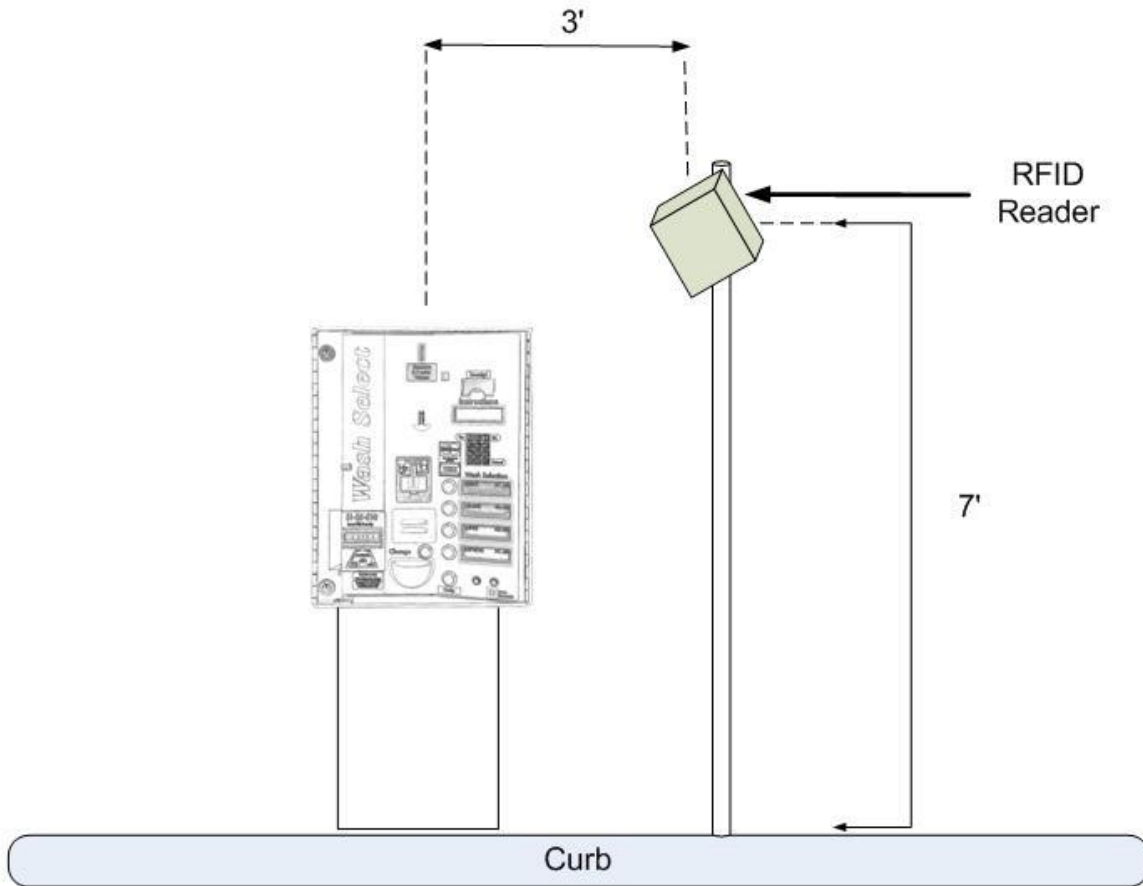

Figure 5. RFID Reader Installation - Front View
If the optional mounting pole was ordered with the RFID kit, the reader should be mounted on the pole beside the far side of the Wash Select II (with the flange of the mounting pole installed 3 feet from the centerline of the unit, as shown in Figure 5). The reader should be mounted on a pole 7 feet above the vehicle lane.
To mount the post, the installer will need to drill (4) holes and use concrete anchor bolts to secure the flange to the concrete, as shown below. The flange should be flush to the side of the entry unit, as shown in Figure 5.